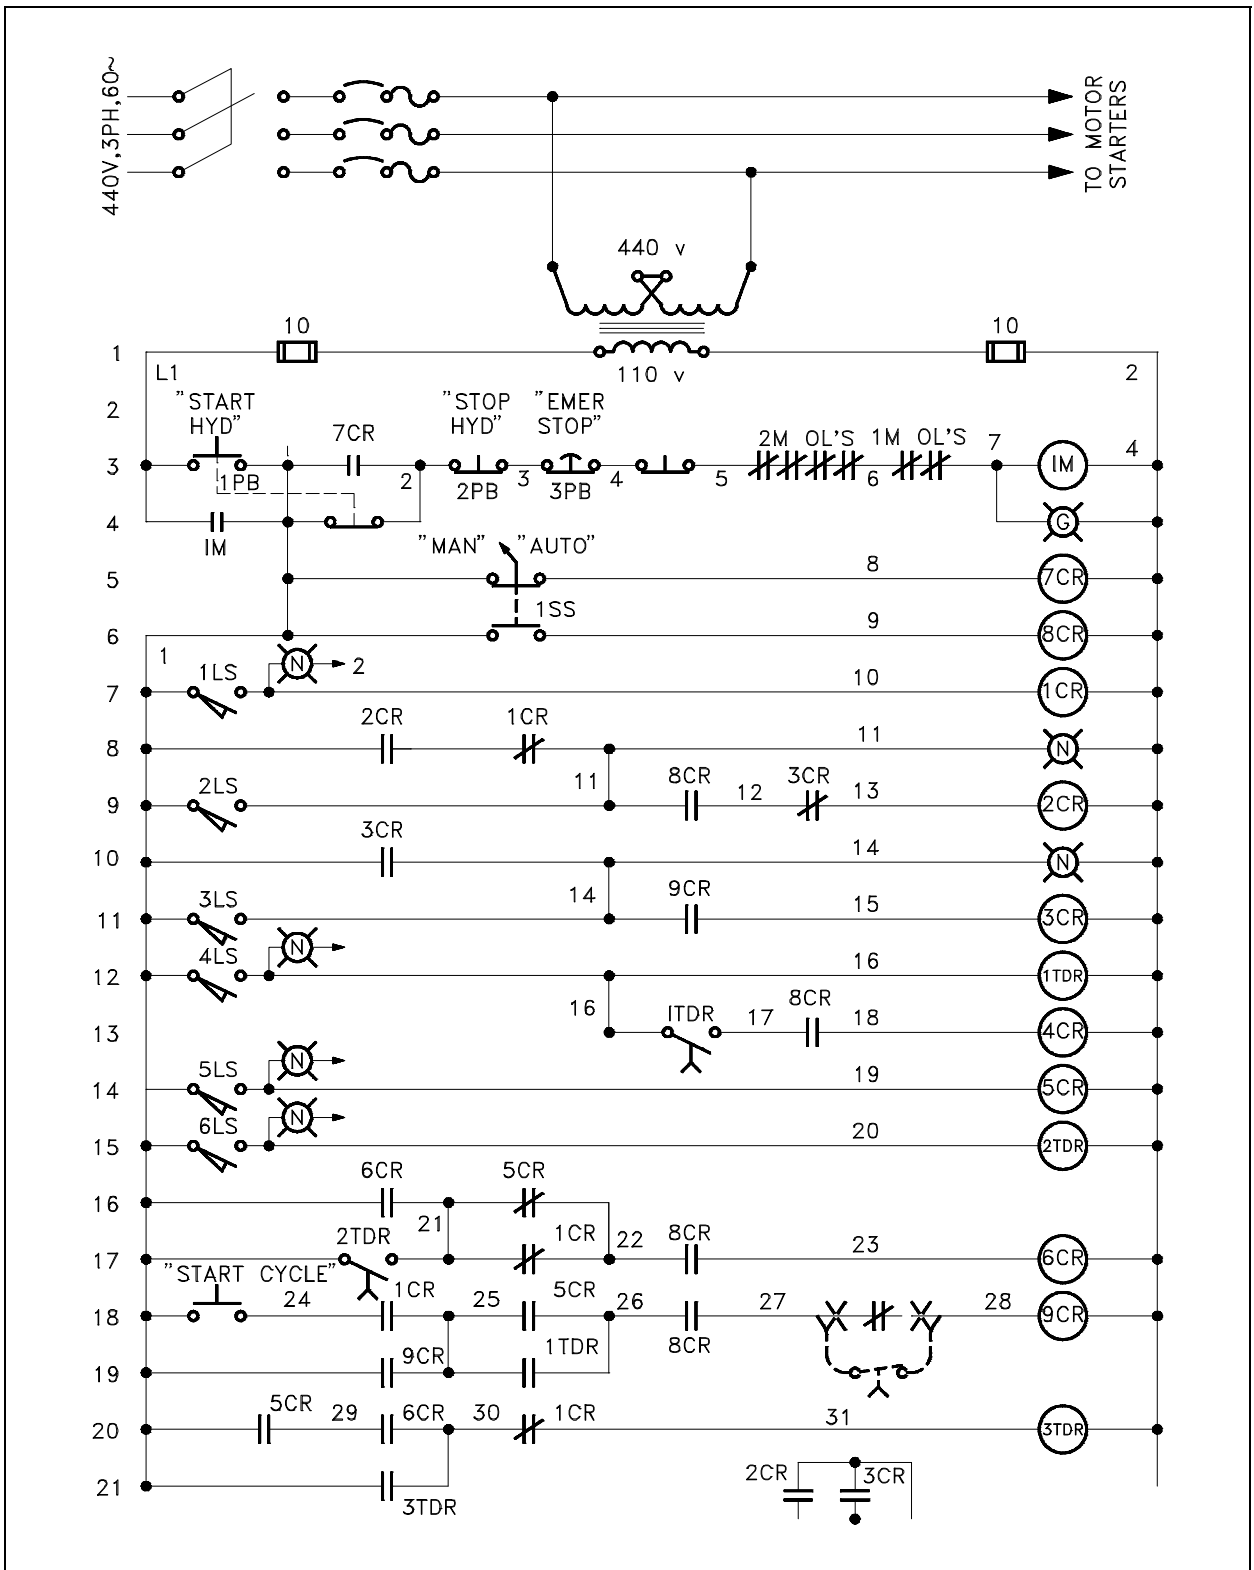
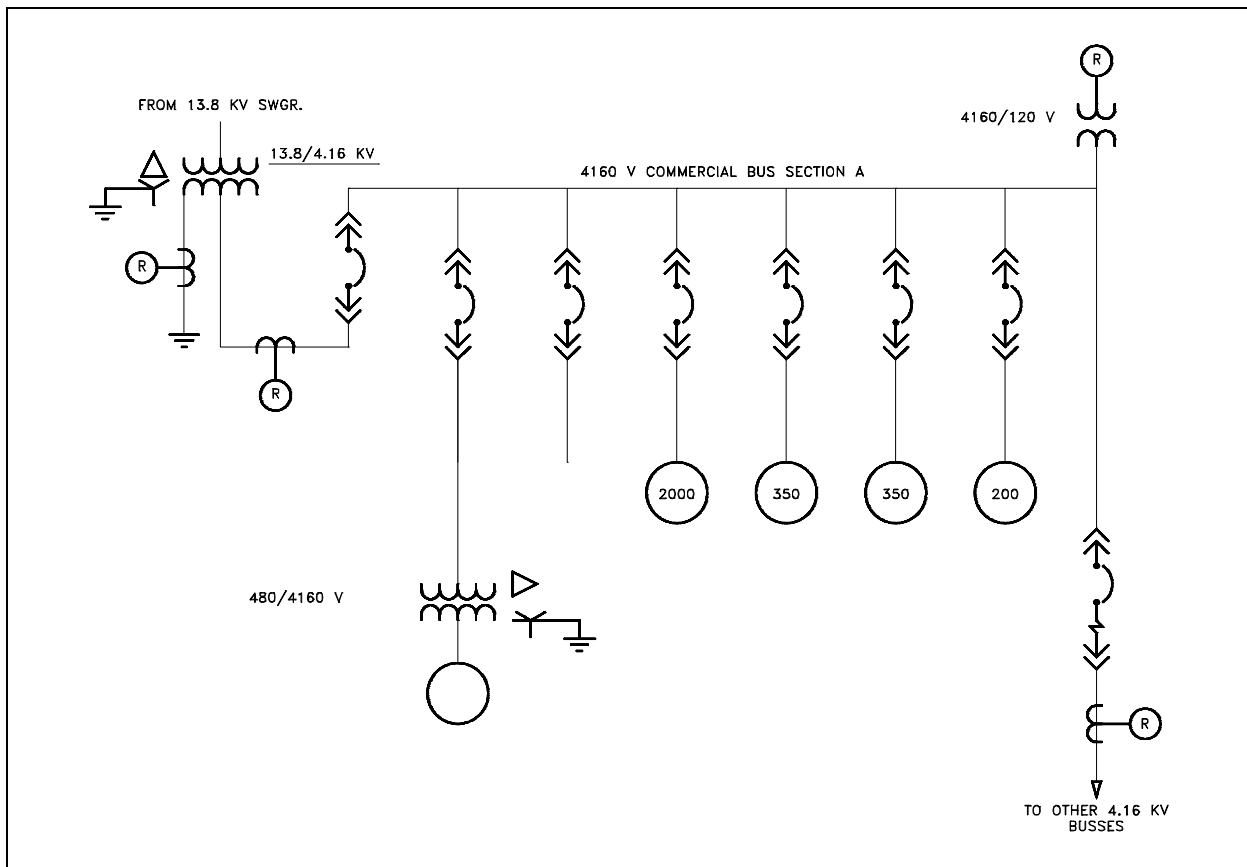

Figure 17 Example 1
Figure 18 Example 2
To aid in understanding the symbology and diagrams discussed in this module refer to Figure 17 and Figure 18. Then answer the questions asked about each. The answers for each example are given on the page following the questions.
Referring to Figure 17:
Answers to questions on Figure 17.
Referring to Figure 18.
1. What type of diagram is Figure 18?
Answers to questions on Figure 18.